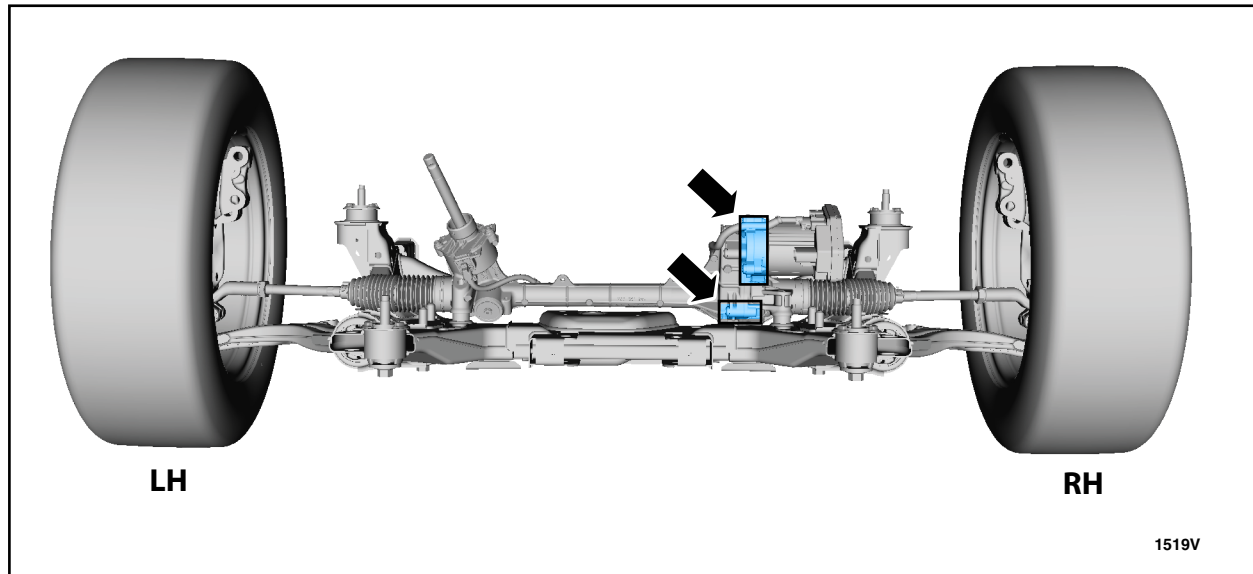

FIGURE 18
3. Working from the rear of the subframe, insert nozzle between the steering gear and subframe underneath housing seam. Apply sealant to gear motor bolt three, steering gear to housing seam and housing bolts four and eight heads, threads and thread holes. See Figures 18 and 19.